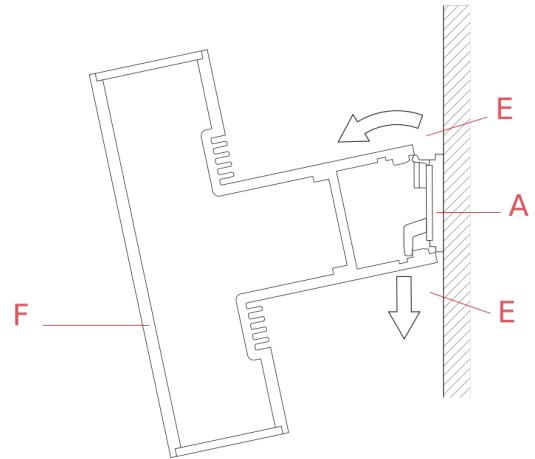

Fig.2
- Remove the body (D) of the device from the wall attachment (A) by unhooking it from the hooks (E) present on the wall attachment.(Fig.2)